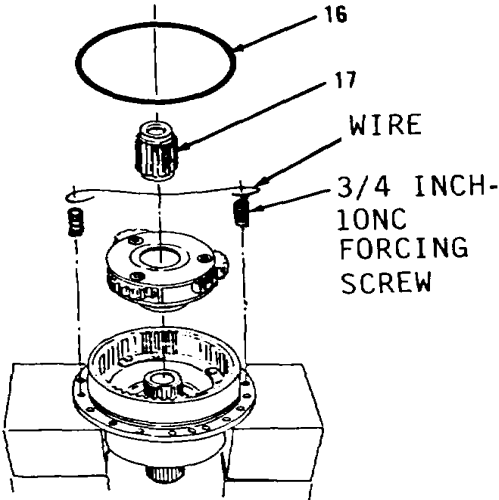

Figure 5-133.
- 13. Install gear (17) and new preformed packing (16, Figure 5-133).